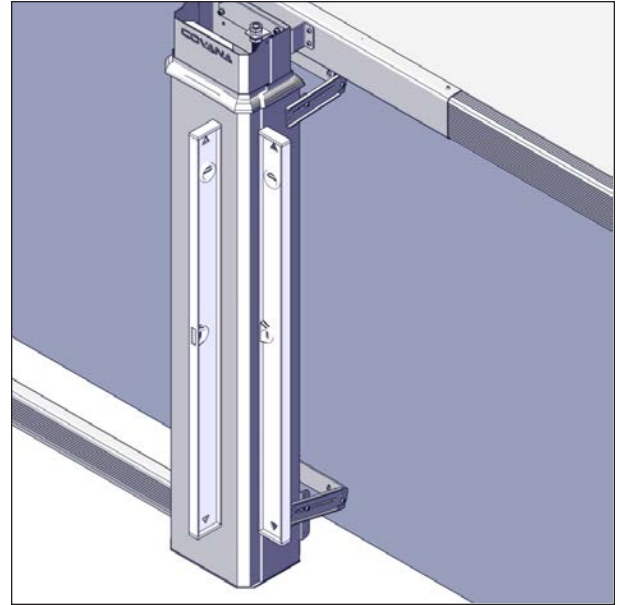

FIGURE 88: POST LEVEL ADJUSTMENTS
19. Use a 48" long level to ensure that the four posts are vertically level, see Figure 88.
22. Check if the posts are still level on both vertical axes. If not, unscrew the mount arms and reposition the sleeves. Use the outer sleeve as a reference. Use the 48" (122 cm) level, see Figure 88.